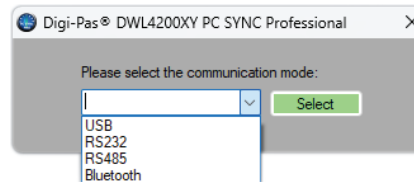

Figure 20. Select mode from the drop down menu
- Assuming steps stated in 3.2 Configuration of Sensor Module(s) with Control Box and 4.1 Installation of the DWL4x00XY PC Sync Software have been done in this stage. Open PC SYNC software and select the desired mode from the drop down menu as shown in Figure 20. In this example, RS485 is selected.